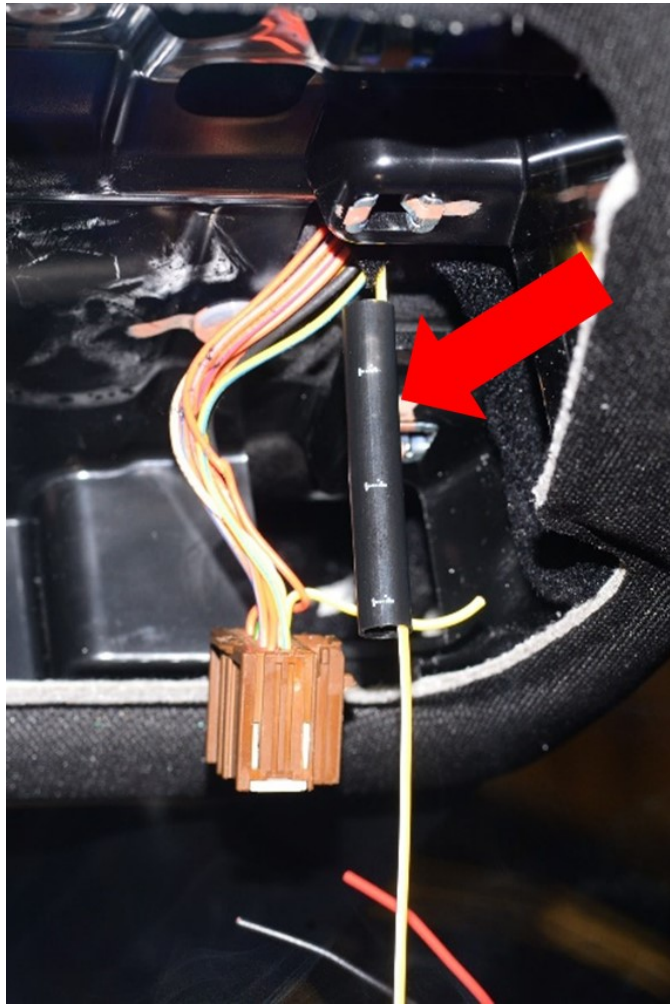

Fig. 3
7. Position heat shrink onto one of the yellow/white wire wires and connect the yellow/white wire from the dome lamp wiring harness, to the yellow/white wire on the jumper wiring harness Fig. 3. **Do not heat the heat shrink tubing.**